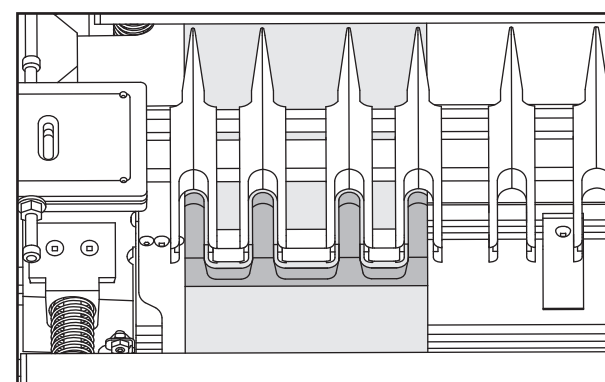

Fig. E13
9. The final cut should look like cut shown in Fig. E13.